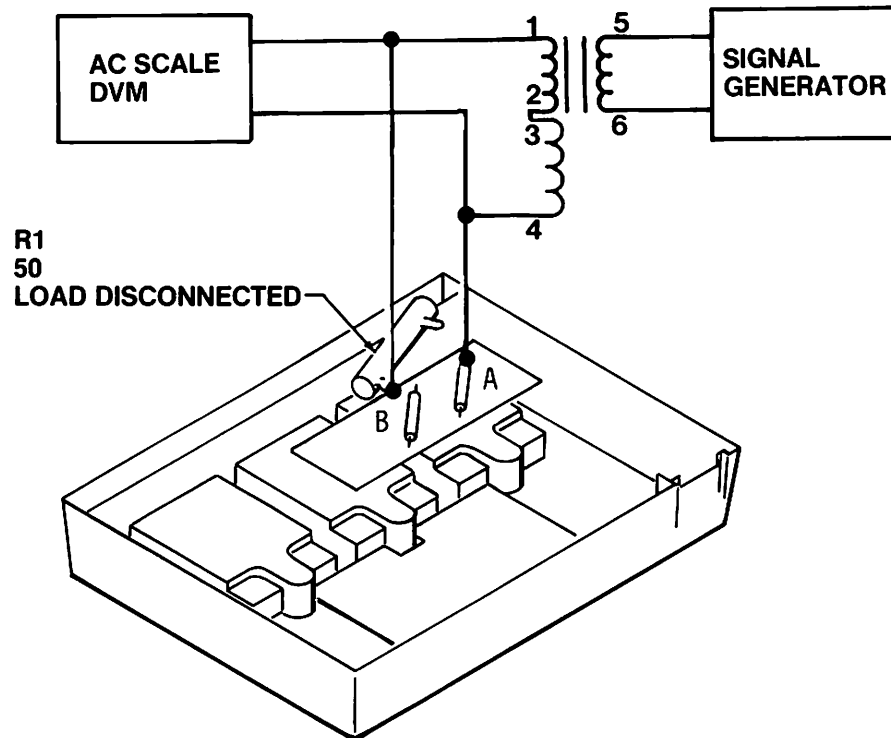

FIGURE 4-3. ATTENUATOR BOARD TEST SETUP
- B. Connect the test adaptor as shown in Figure 4-3.